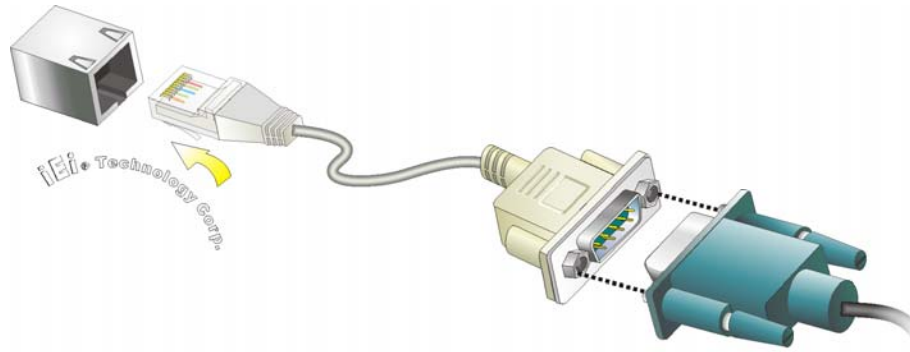

Figure 3-30: RJ-45 Serial Port Connector
Step 2: **Connect the RJ-45 to COM port cable to the panel PC.** Insert the RJ-45 connector end of cable into the RJ-45 serial port. See **Figure 3-30**.
Step 3: **Connect the serial device.** Connect a serial device to the DB-9 connector end of the cable. See **Figure 3-30**.